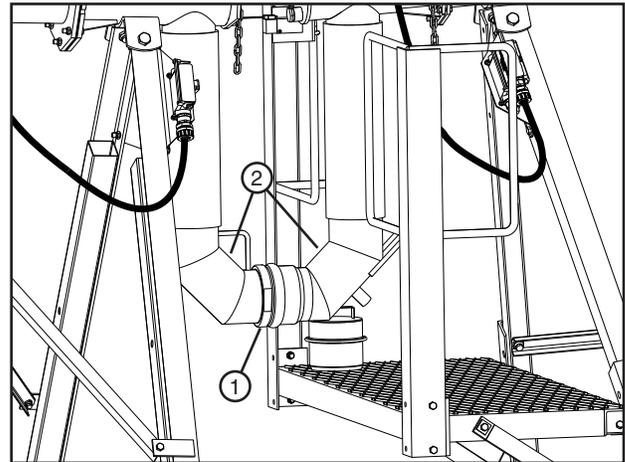

Figure 31-2 1. Water Transfer Elbows
9. Connect the water transfer elbows and lock in place with ring-lock clamp. See Figure 31-2.